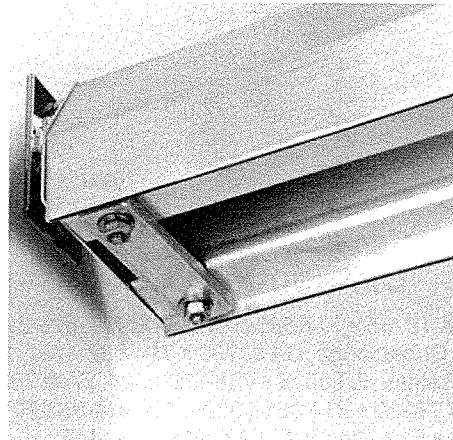

Fig. 2
2. After mounting the wall brackets to the wall surface, install the tracks to the brackets (Fig. 2).